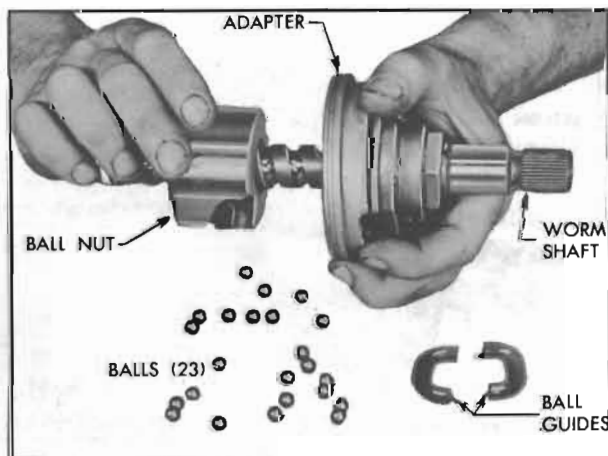

Figure 8-27—Removing Balls from Ball Nut
2. Remove the ball return guides. Turn the nut with the ball return guide holes down. Rotate the worm back and forth until all the balls have dropped out of the nut. Catch the balls in a clean pan or cloth. Remove the ball nut and the adapter from the worm. Remove thrust bearing centering springs from the adapter. See Figure 8-27.